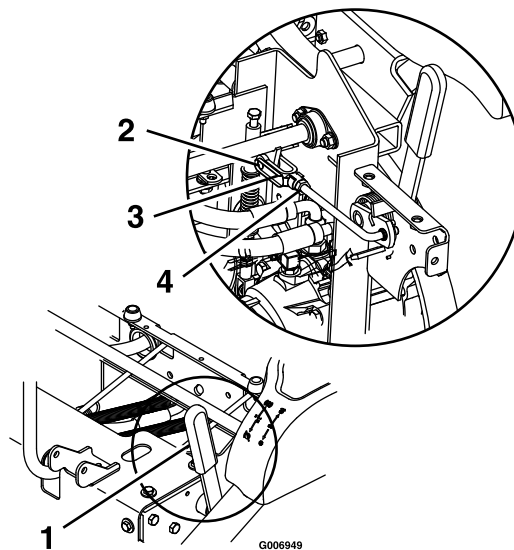

**Figure 13**
2. A gap must exist between the bottom of the brake bolt head and the top surface of the brake swivel as shown in Figure 13. If a gap does not exist, adjust the linkage to a maximum gap of 1/2 inch  $\pm 1/8$  inch (1.3 cm  $\pm 0.33$  cm) as shown.